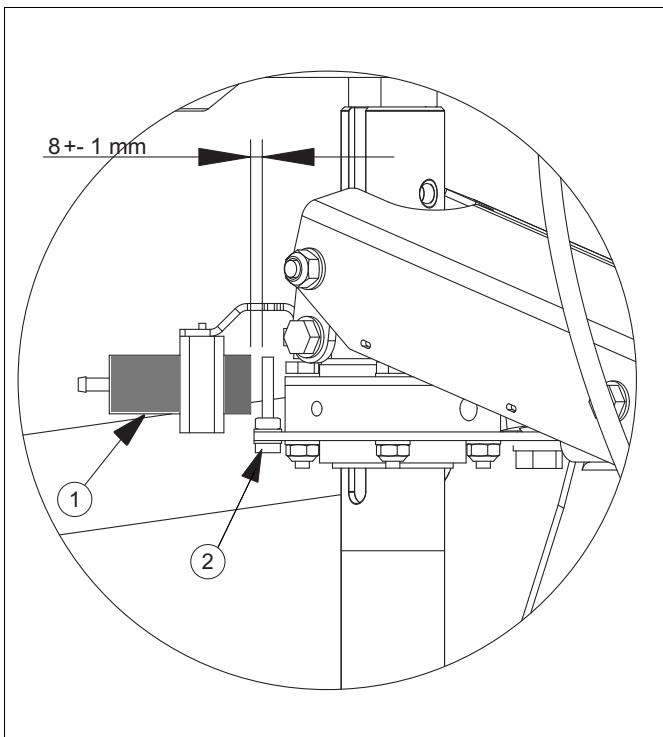

fig. 12 Proximity switch
- To guarantee the proper functioning of the proximity switch there must be a  $8 \pm 1$  mm distance between the bolt and the proximity switch. See fig. 12.